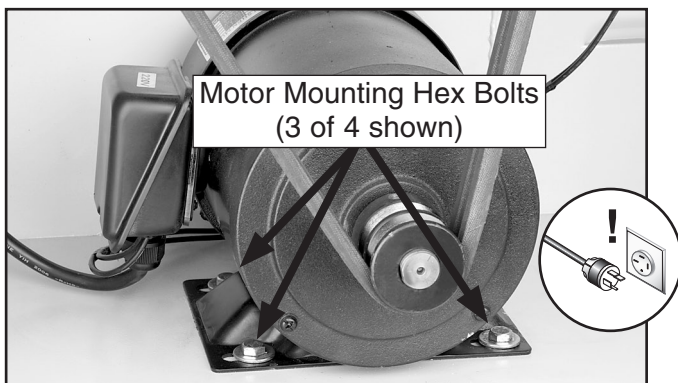

Figure 43. Motor mounting hex bolts.
- Loosen the four motor mounting hex bolts (see **Figure 43**).